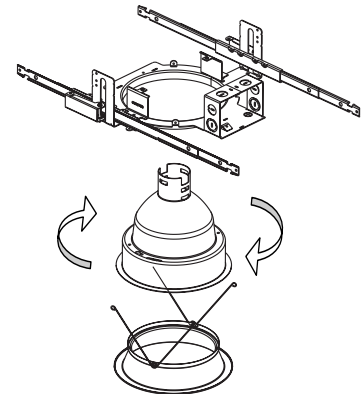

Figure 4
4. Push reflector through mounting frame opening and align key hole slots with screws in trim mounting brackets. Rotate reflector to engage as shown in Figure 4 and tighten screws securely.